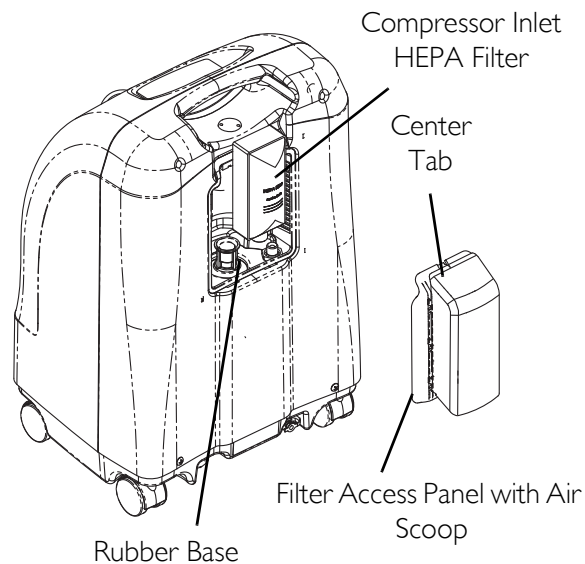

FIGURE 6.3 Replacing the Compressor Inlet HEPA Filter
3. For easier access to the outlet HEPA filter, remove the compressor inlet HEPA filter by grasping the compressor inlet filter, pull outward and up until filter is dislodged from rubber base (FIGURE 6.3).
NOTE: For this procedure, refer to FIGURE 6.3 on page 26.